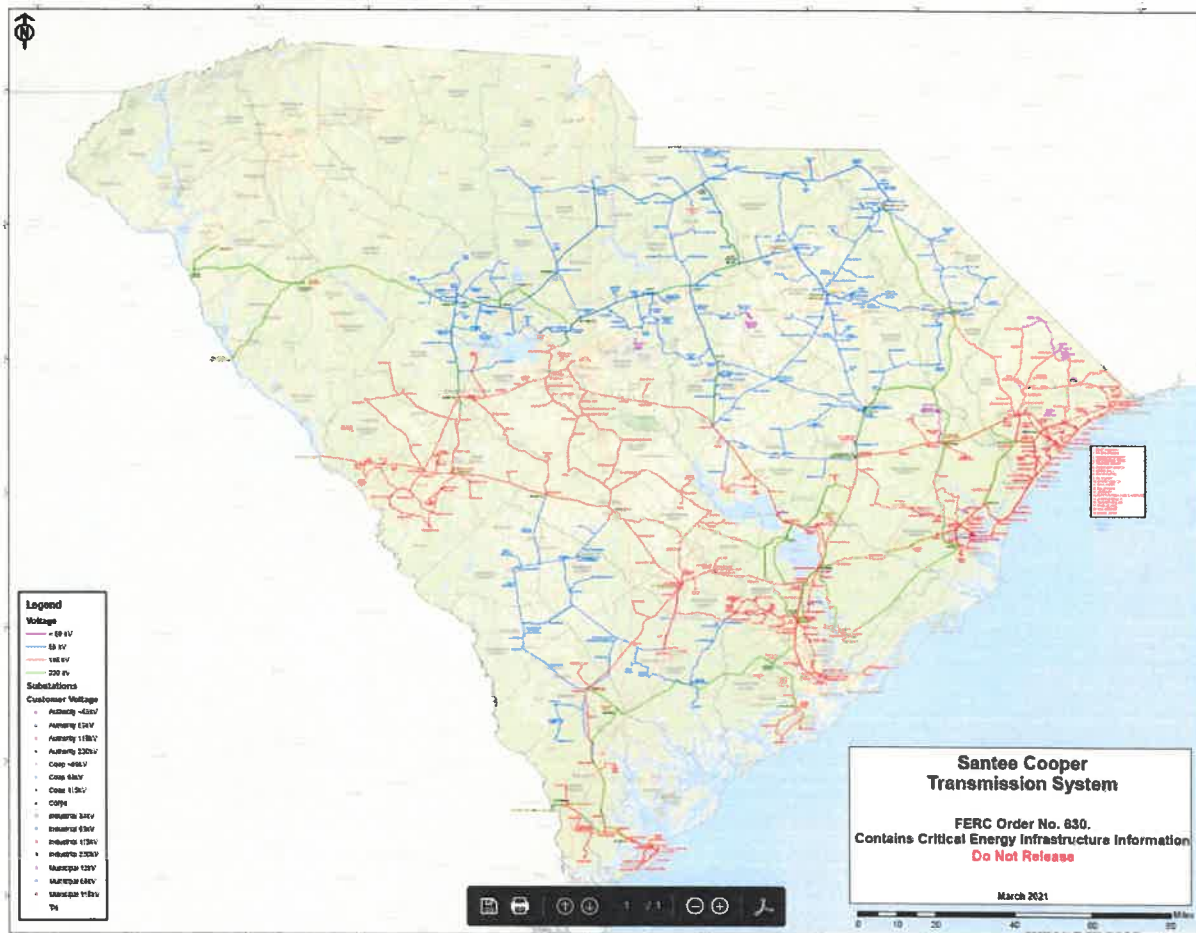

Figure 1. Santee Cooper Transmission System Map
Currently, the transmission system (Figure 1) is divided into three (3) transmission areas (Southern Transmission Area, Central Transmission Area, and Northern Transmission Area) from a line maintenance perspective. From a vegetation management viewpoint, this is important since line technician personnel are very knowledgeable of the changing vegetation conditions in their respective areas. Their annual right of way vegetation inspections and associated feedback provide a quality check that ensures established vegetation maintenance cycles continue to be effective. Further, they routinely recognize and report critical vegetation problems (e.g., dead, diseased or leaning trees) that were not present during scheduled vegetation maintenance activities.